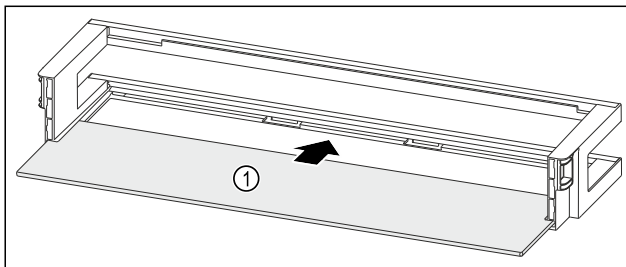

Fig. 134 Door rack with shelf
- ▶ Push the shelf Fig. 134 (1) into the side recesses.